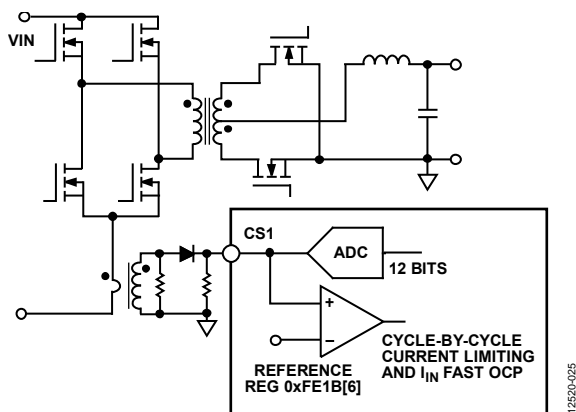

Figure 25. CS1 Operation
Current Sense 1 (CS1) is typically used for the monitoring and protection of the primary side current, which is commonly sensed using a current transformer (CT). The input signal at the CS1 pin is fed into an ADC for current monitoring. The range of the ADC is 0 V to 1.60 V. The input signal is also fed into an analog comparator for cycle-by-cycle current limiting and I_{IN} overcurrent fast protection, with a reference of 0.25 V or 1.2 V set by Register 0xFE1B[6]. The typical configuration for the CS1 current sense is shown in Figure 25.